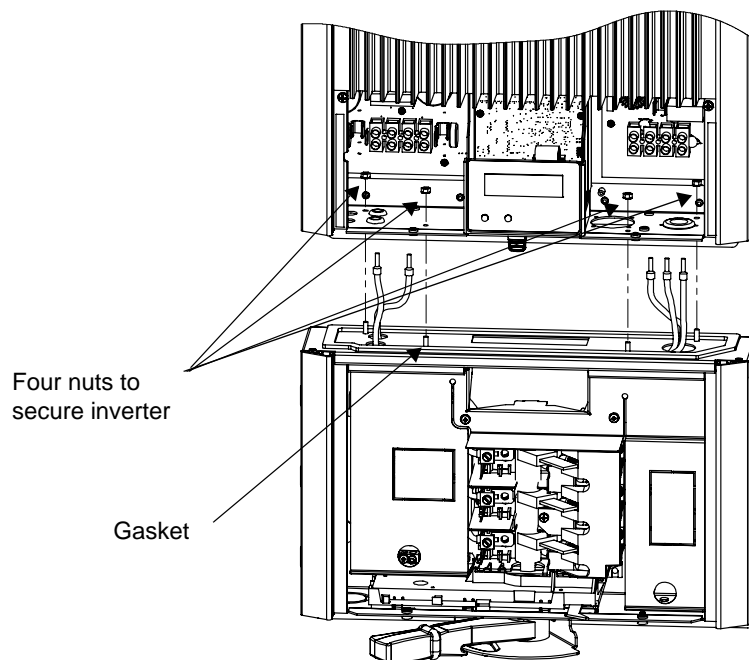

Figure 6-4 Wiring/Disconnect Box and Removable Inverter
7. Inside the inverter, remove the four nuts attaching the wiring box to the inverter. See Figure 6-4.